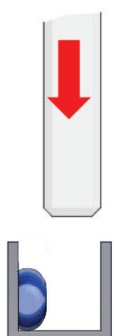

FIG 6.
- and run a thick continuous line of silicone down the inside of the wall channel (**FIG 6**) and apply liberally in the wall to floor channel join and along the floor channel to the length of the glass panel.